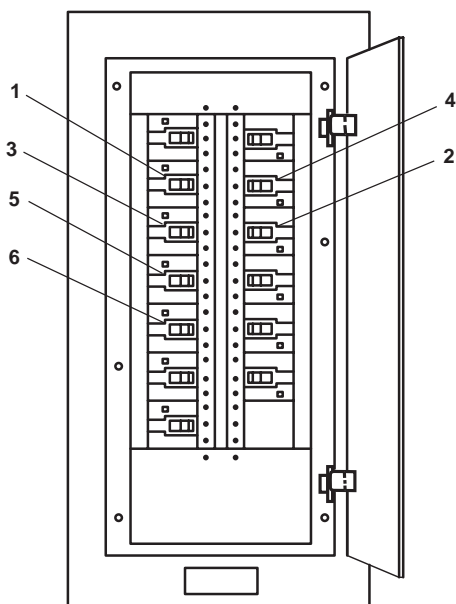

Figure 3. 440V Power Panel No. 1
- a. FRESH WATER PUMP No. 1, (REDUCTION GEAR). (figure 3, item 1)
- b. MAIN ENGINE LUBE OIL PRIMING PUMP No. 1. (figure 3, item 2)
- c. MAIN ENGINE JACKET WATER HEATER No. 1./TURBO OIL PUMP No. 1./WATER LAY OVER PUMP No. 1. (figure 3, item 3)